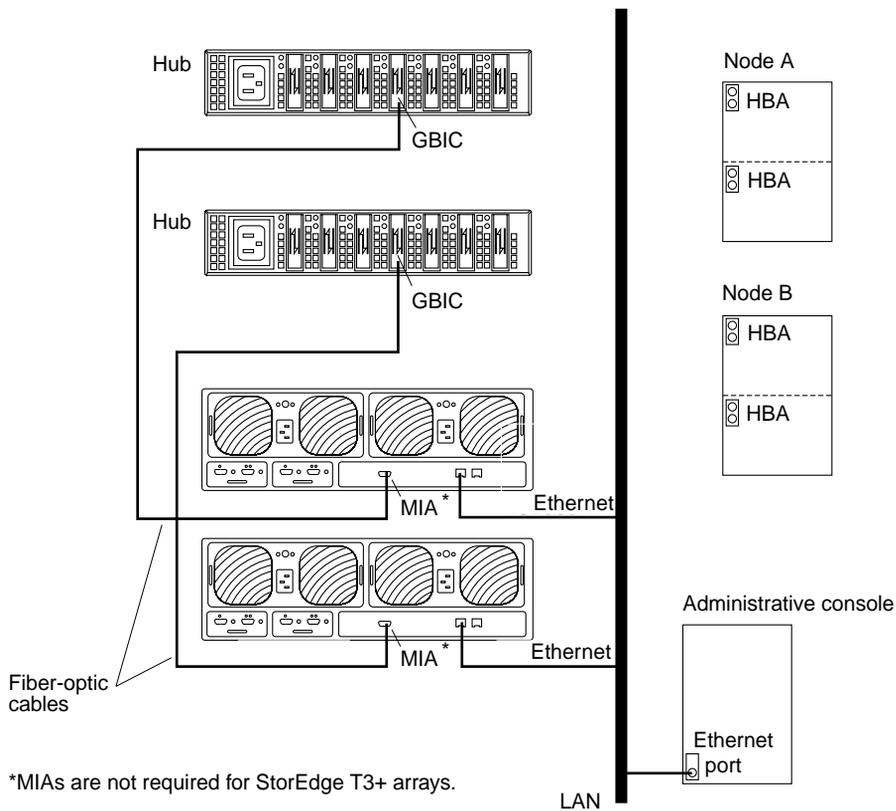

FIGURE 8-2 Adding a StorEdge T3/T3+ Array in a Single-Controller Configuration
2. **(Skip this step if you are adding a StorEdge T3+ array) Install the media interface adapter (MIA) in the StorEdge T3 array you are adding as shown in FIGURE 8-2.**
3. **If necessary, install gigabit interface converters (GBICs) in the Sun StorEdge FC-100 hub as shown in FIGURE 8-2.**
4. **Install the Ethernet cable between the StorEdge T3/T3+ array and the Local Area Network (LAN), as shown in FIGURE 8-2.**
8. **Install a fiber-optic cable between the Sun StorEdge FC-100 hub and the StorEdge T3/T3+ array as shown in FIGURE 8-2.**
Note – Although FIGURE 8-2 shows a single-controller configuration, two arrays are shown to illustrate how two non-interconnected arrays are typically cabled in a cluster to allow data sharing and host-based mirroring.